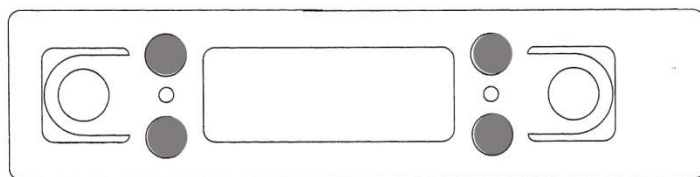

Figure 1
Step 1: Install the 4 rubber pads on the inside (towards radio) of each side panel as shown in figure 1